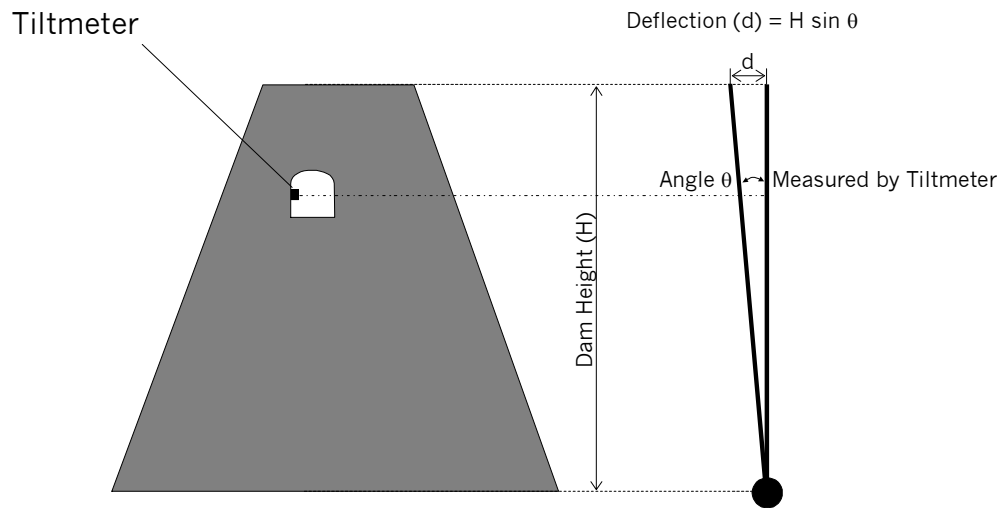

Figure 2 – Simple model of gravity dam crest movement using single tiltmeter in vertical section.
Tiltmeters provide a method of measuring the rotation associated with dam crest deflection with extremely high resolution. To convert rotation measured by the tiltmeters to displacement requires integration of the angular measurements over some finite length. A rigid structure allows for a fairly simple model for calculating displacements. For this purpose the foundation is assumed to be a fixed point, and the dam is assumed to be rigid (See Figure 2). Displacement is then calculated by assuming the rotation,  $\theta$ , measured by the tiltmeter is occurring over the entire section. Displacement ( $d$ ) is therefore calculated as  $d = (H)(\sin\theta)$ , where  $\theta$  is the angle measured with the mid-span tiltmeter, and  $H$  is the height of the dam. Tiltmeters used for this purpose have a resolution of better than 1 microradian. This is equivalent to better than 1 mm of displacement over a kilometer.